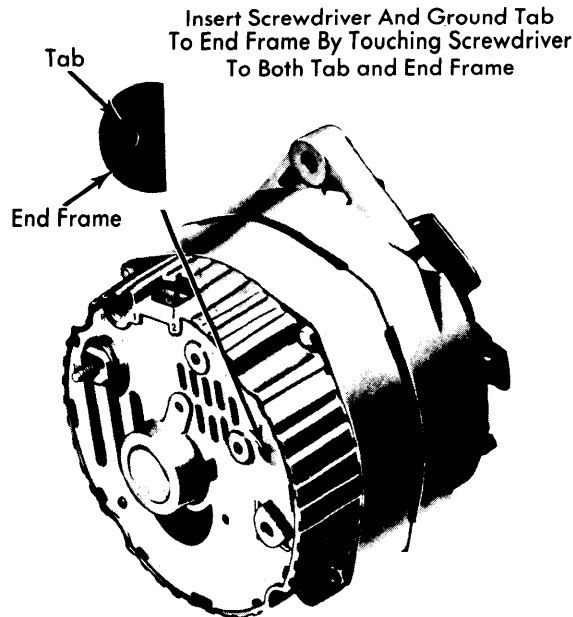

Fig. 3 View Showing Field Ground Tab Accessible through Hole in End Frame
2) Disconnect battery ground cable. Connect an ammeter in the circuit at the "BAT" terminal of alternator. Reconnect battery ground cable. Turn on all available accessories. Connect a carbon pile across battery. Operate engine at moderate speed and adjust carbon pile as required to obtain maximum current output. If ampere output is within 10 amps of rated output as stamped on alternator case, alternator is good. If output is not within 10 amps of rated output, ground the field winding by inserting a screwdriver into test hole. See Fig. 3. **CAUTION** — Tab is within $\frac{3}{4}$ " of casting surface, do not force screwdriver deeper than one inch into end frame.